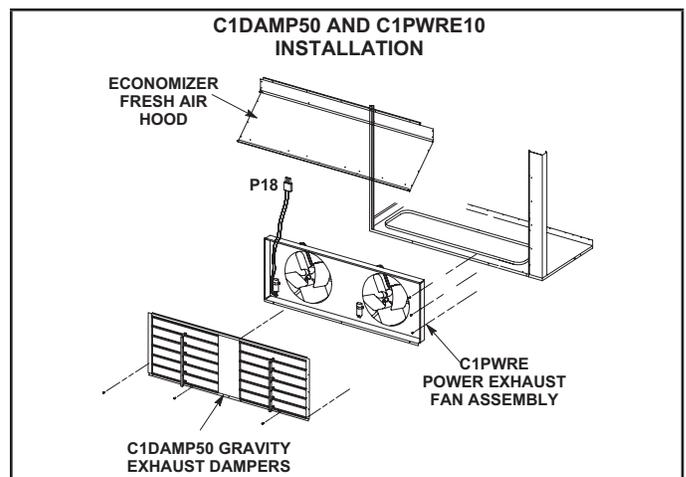

FIGURE 46
C1DAMP50 dampers (FIGURE 46) are used in downflow and LAGED(H)18/24 are used in horizontal air discharge applications. LAGED(H) gravity exhaust dampers are installed in the return air plenum. The dampers must be used any time an economizer or power exhaust fans are applied to KGC series units.
FIGURE 46 shows the location of the C1PWRE. See installation instructions for more detail.